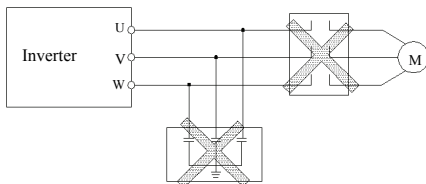

Fig.3-3 Banned magnetic control conductor and absorbing capacitance between inverter and motor
- (1) Assure power cut off completely for above 10 minutes before wiring, otherwise have danger of getting electric shock.
- (2) Forbid connecting power wire to output U, V, W of the inverter.
- (3) There is current leakage in the inverter and leak current of middle/high power inverter is bigger than 5mA, for safety reason, inverter and motor must be earthed safely, commonly use 3.5mm² above copper wire as ground wire and ground resistance smaller than 10Ω.
- (4) Before shipment compression resistance test of the inverter is passed, so user should not conduct compression resistance test again.
- (5) Should not assemble electromagnetic contactor and absorbing capacitance or other absorbing device, see Fig.3-3.
- (6) To be convenient to over current protect of input side and power off maintenance inverter should be connected to power supply through relay.
- (7) Connecting wire for relay input and output loop(X1, X2, FWD, REV), should use above 0.75mm² glued wire or shielding wire, one shielding layer end hung in the air, the other connected to grounding end (⊕), connecting wire shorter than 20m.